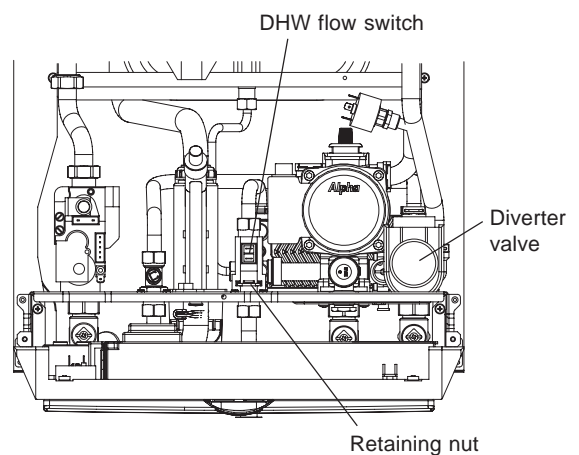

Fig. 28
8.15 DIVERTER VALVE MOTOR ASSEMBLY - Fig. 28
8.17 DHW FLOW SWITCH - Fig. 28